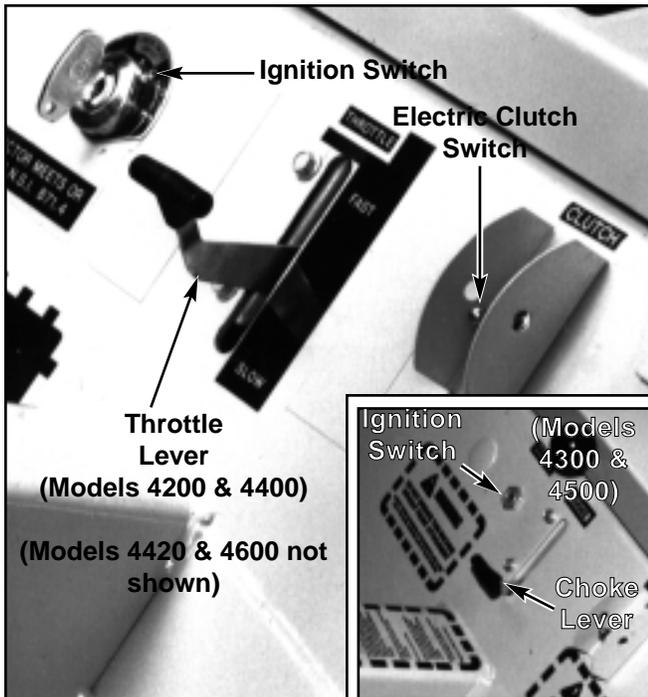
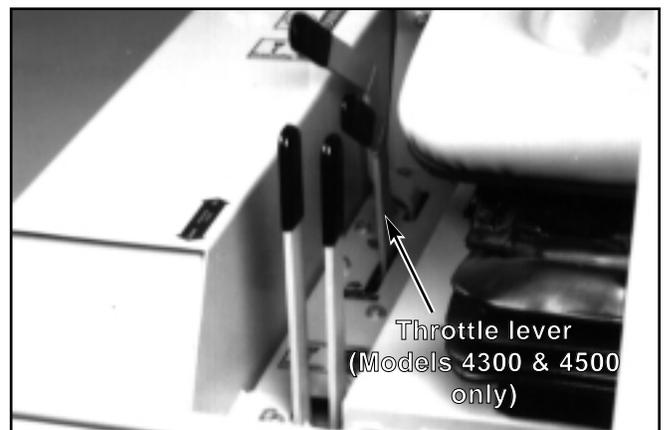

Figure 3-2
Figure 3-3
- 1. Ignition switch (Fig. 3-2) – Models 4200, 4400, 4420 and 4600.** A four-position switch: off, pre-heat, run and start. With key inserted, rotate it counterclockwise for engine pre-heat, then rotate full clockwise for
- 2. Throttle (Figs. 3-2 and 3-3) –** a mechanical link connected to the engine governor for controlling engine rpm. On models 4200/4400/4420/4600 (Fig. 3-2), move lever up to increase engine rpm, move down to decrease engine rpm. On models 4300 and 4500 (Fig. 3-3), move lever down and forward to increase engine rpm, pull up and back to decrease engine rpm.
- 3. Choke control (Fig. 3-2) –** a cable link to manual engine choke, models 4300 and 4500 only. Move up for cold starting, move down for normal run.
4. **Electric PTO clutch switch (Fig. 3-2)** – a two-position switch which controls the electric clutch on the PTO shaft. Down position is OFF and up position is ON. When clutch switch is on, the PTO shaft rotates and delivers live power to attachment requiring it.